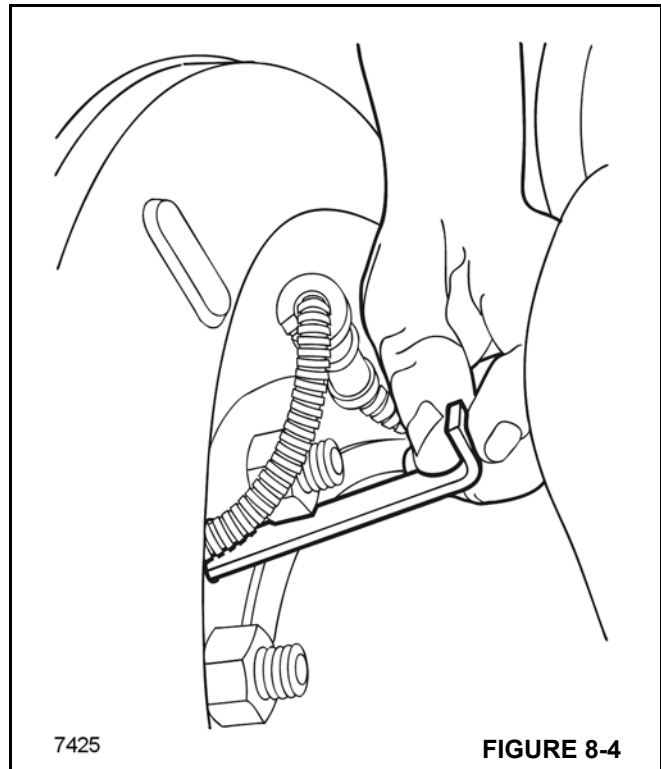

FIGURE 8-4
1. Slide the notched end of an ABS sensor adjustment tool (Figure 8-4) through the opening in the brake spider until it rests against the sensor (the tool will go in the hole at a slight angle).